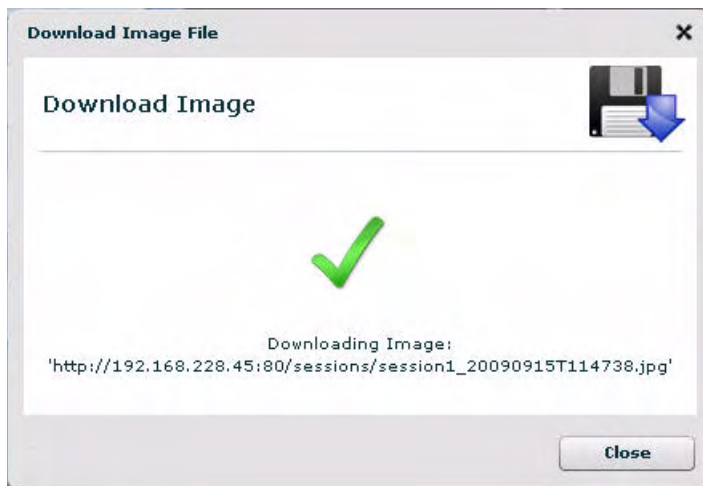

FIG. 128 Download Image File dialog
6. The application notifies you that the file has been saved (FIG. 128):